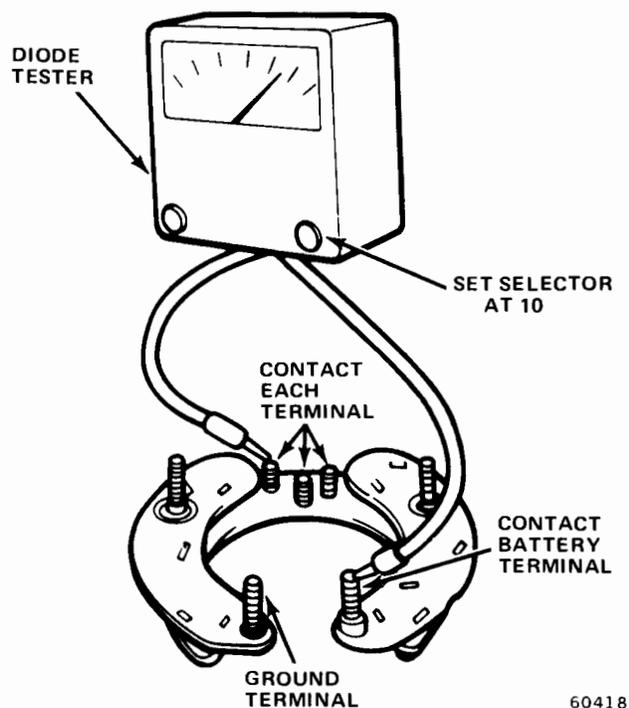

Fig. 3-15 Testing Positive Diodes
(4) Test positive diodes by touching one lead to rectifier battery terminal and other lead to each stator lead terminal (fig. 3-15). Reverse leads to check diodes in other direction.